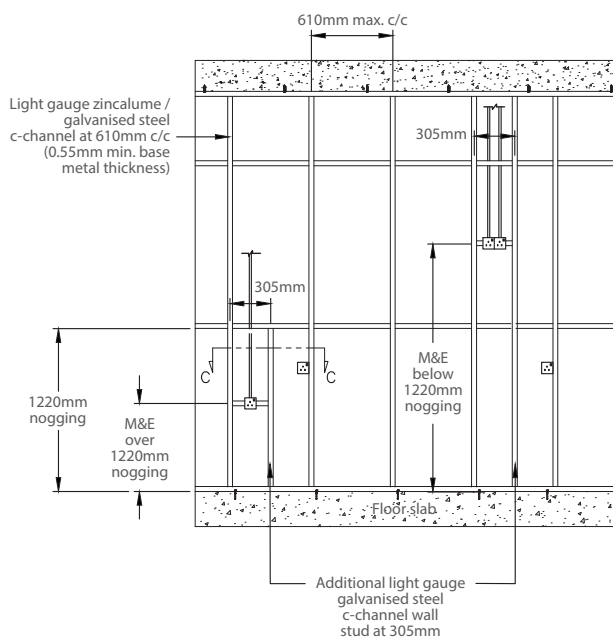

Figure 12: M&E framing layout
- a. M&E services installation is recommended to be done prior the 2nd piece wall panel installation. Refer to Figure 12 for M&E framing layout.